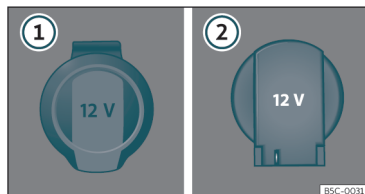

Fig. 129 12 volt power socket: ① inside the front armrest, ② in the luggage compartment.
- Lift the power socket cover >>> **Fig. 129 ①**.
- Lift the power socket cover >>> **Fig. 129 ②**.